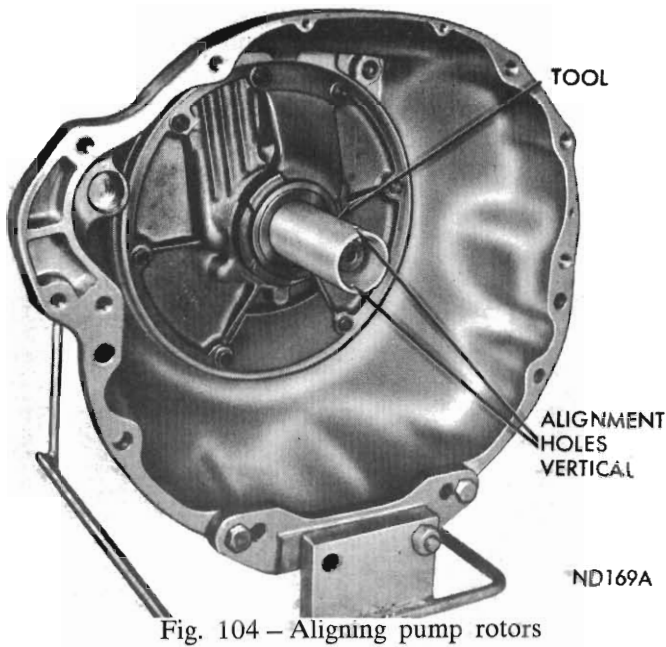

Fig. 104 - Aligning pump rotors
(1) Rotate pump rotors with Tool E21C35E (A-904) or Tool E21C35P (A-727) until the two small holes in handle are vertical (*Fig. 104*).
(2) Carefully slide converter assembly over input shaft and reaction shaft. Make sure converter impeller shaft slots are also vertical and fully engage pump inner rotor lugs.